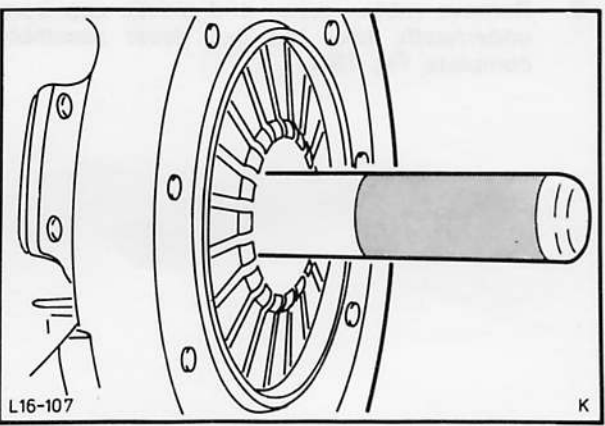

Fig. 133. Fit pressure plate and clutch disc using centering tool 21-044/21-080
2. Locate pressure plate and clutch disc on flywheel with Special Tool 21-044/21-080, ensuring that flat side of clutch disc faces the flywheel, Fig. 133.